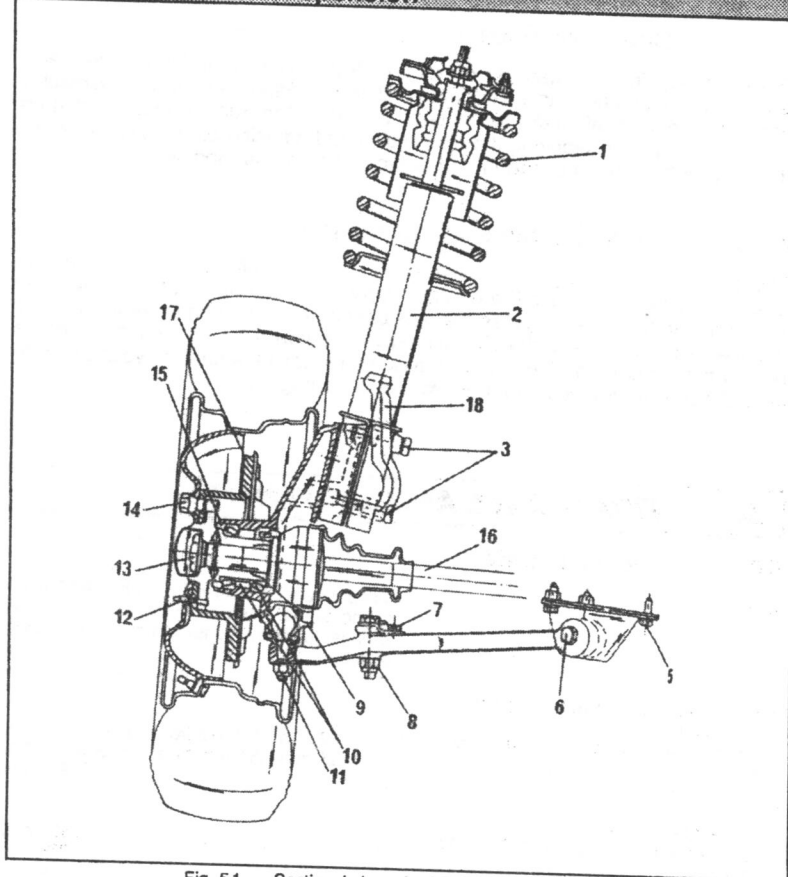

Fig. 5.1. — Sectional view of a front suspension strut.
Fig. 5.1 shows a sectional view of one side of the front suspension, also giving the tightening torques of the individual elements. The reactions strut fitted between the lower suspension arm and a mounting bracket on the chassis (body) is secured with nuts on one end. Shims under the nuts are used to adjust the caster angle of the front wheel. Other things to note is the rating of the front springs, shock absorbers and the diameter of the wheel bearings. Only replace in accordance with the model and the chassis number.
After the front axle unit has been removed in the described manner you will be able to dismantle it to replace individual parts. All tightening torques are given in Fig. 5.1.
- Unscrew the suspension arm from the mounting bracket. If a new suspension arm is fitted, tighten the bolt (6) in Fig. 5.1 to 9.0 kgm (65 ft.lb.) when the wheels are resting on the ground. Note that suspension arms are not the same for all models. Differences will be found in the diameter of the mounting bush.